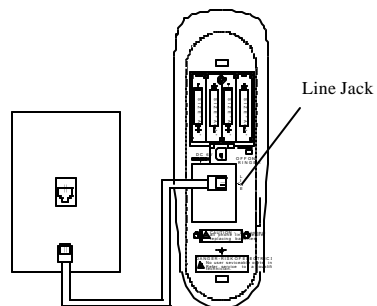

Figure 4
2. Connect the other end of the telephone line cord into the telephone modular jack located on your wall. See figure 4.